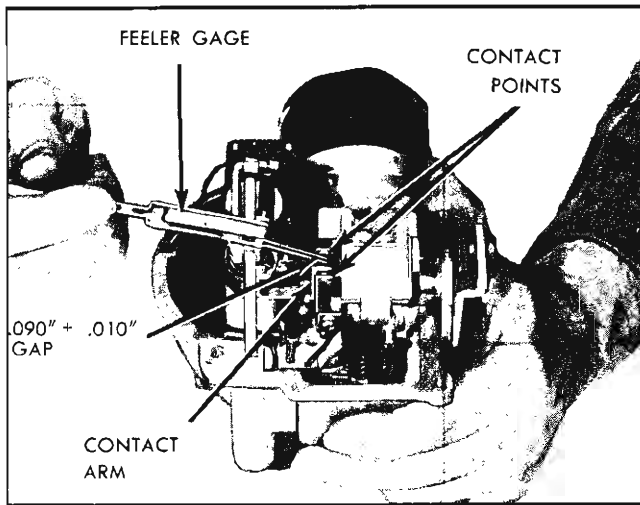

Fig. 12-44 Contact Point Adjustment (Full Gap)
2. Move contact arm against either contact point and use a feeler gauge to measure the full gap between contact arm and other point (Fig. 12-44). This gap must be  $.090" \pm .010"$ . If gap is not within specifications, bend either contact point on magnet assembly until proper gap is obtained.